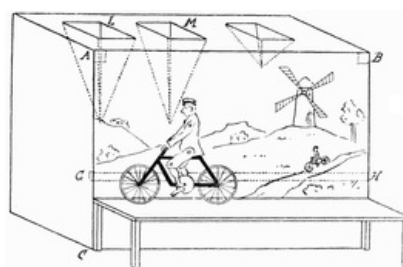

FIG. 453
**To make a Bicyclist** (Fig. 453). Cut two circles of cardboard, radius  $1\frac{1}{4}$  inches. Mark on them the spokes of a bicycle.
Make two sand-wheels the same size as the bicycle wheels; their width should be about  $\frac{1}{2}$  inch to  $\frac{3}{4}$  inch. Take a piece of stripwood  $\frac{1}{2}$  inch by  $\frac{1}{4}$  inch and the length of the box. Make holes in it, 3 inches,  $4\frac{1}{2}$  inches and 6 inches from one end. Nail the bar across the box 3 inches from ground; make holes in the back of the box exactly opposite the holes in the bar. Make wooden axles to pass right through these holes so that they turn freely in them. The sand-wheels should be glued to two of these axles. Now cut out a piece of cardboard to fit over the front of the box; bore holes in it corresponding to those in the bar, G H. Paint on it a suitable background, as in Fig. 453. Nail small pieces of stripwood,  $\frac{1}{2}$  inch by  $\frac{1}{4}$  inch, to the corners of the box (as at A and B in Fig. 453), to which the cardboard can be fastened by drawing-pins or glue. Pass the axles of the sand-wheels through the first and third holes from the end of bar G H, and let them project about 1 inch beyond the cardboard. To these ends the bicycle wheels must be glued. In making this toy it is better not to fasten pieces together too quickly, until all the various parts are ready.
Make a platform as in Fig. 453 to support the cyclist. Make two reservoirs as already described. Cut a piece of cardboard to fit over the top of box and make holes in it, L and M in Fig. 453. Glue the reservoirs under these. Make a cardboard tray to fit under the wheels for the sand to fall in. Another wheel might be added to work the sails of the windmill in the distance. Very fine sand must be used for working these toys, the best is silver sand and it should be kept as dry as possible.